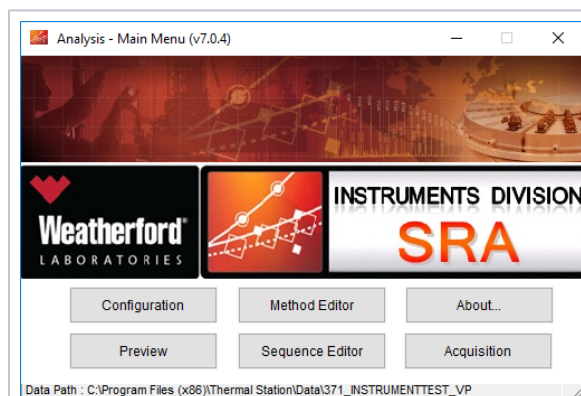

Figure 3: Acquisition software main screen
4. Double-click the **TStationAcq.exe** shortcut icon on the desktop to open the software *Main Menu* (Figure 3).
1. Click **Sequence Editor** on the *Main Menu* (**Figure 3**).